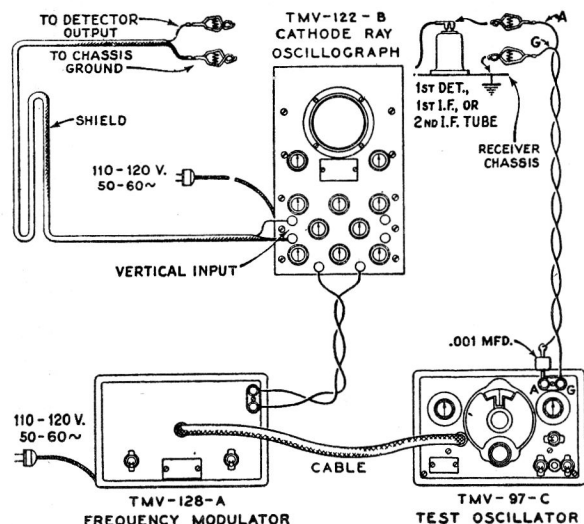

Figure 5—Alignment Apparatus Connections
Figure 5. A .001 mfd. capacitor installed in series with the Oscillator "Ant." lead will prevent the voltages of the stage under alignment from becoming upset. The vertical "A" amplifier should be "On" for the ensuing adjustments and the gain control kept at its maximum position. For each adjustment, the Oscillator output need be regulated so that the image obtained
- (b) Attach the output of the test Oscillator between the control grid cap of the Type-6K7 i-f tube and chassis ground as shown typically by Figure 5. Tune the Oscillator to **460 kc.** and set its modulation switch to "On". Regulate its output until the signal produces a wave pattern on the Oscillograph screen, adjusting the Oscillograph controls to give the desired number of cycles. Cause the image to stand still on the screen by manipulation of the frequency and synchronizing controls. Then carefully tune the two trimmers C-29 and C-30 of the second i-f transformer to produce maximum amplitude (vertical deflection) of the oscillographic image. Under this condition the transformer will be sharply resonated to 460 kc.
in operation and interconnected with the Full Range Oscillator by means of the special shielded patch cord. Figure 5 shows the proper arrangement. Set the Frequency Modulator sweep range switch to its "Lo" position and turn the Oscillator modulation switch to "Off". Change the timing control of the Oscillograph to "Ext." and place the range switch to its No. 2 position. Then carefully shift the tuning of the Oscillator so as to increase its frequency, until two distinct and similar waves appear on the Oscillograph screen and become exactly coincident at their highest points. These curves will be found to occur at an Oscillator setting of *approximately* 540 kc. They will be identical in shape but appearing in reversed positions. Adjust the frequency control of the Oscillograph in order to cause the waves to conform with the above requirements and to make them remain motionless on the screen. This will require a setting of approximately $\frac{1}{2}$ clockwise rotation of the frequency control. The trimmers C-29 and C-30 should then be re-adjusted so that the two curves move together and become exactly coincident throughout their lengths, maintaining the maximum amplitude at which this condition can be brought about.
(a) With the receiver range switch in its Band A position, tune the station selector until the dial pointer is at a reading of 1720 kc. Adjust the test Oscillator to 1720 kc. (modulation "On" and Frequency Modulator disconnected) and increase its output to produce a registration on the Oscillograph. Carefully align the oscillator, detector and antenna trimmers C-20, C-10 and C-3 respectively, so that each brings about maximum amplitude of output as shown by the wave on the Oscillograph. It will be necessary to have the timing control of the Oscillograph on "Int." for this operation. After each trimmer has been peaked, the Oscillograph timing control should be set to "Ext." and the Frequency Modulator placed into operation with its connections to the Oscillator and Oscillograph made in accordance with Figure 5. Turn the modulation switch of the Oscillator to "Off" and retune the Oscillator (increase frequency) until the forward and reverse waves show on the Oscillograph and become coincident at their highest points. Adjust the trimmers C-20, C-10 and C-3 again, setting each to the point which